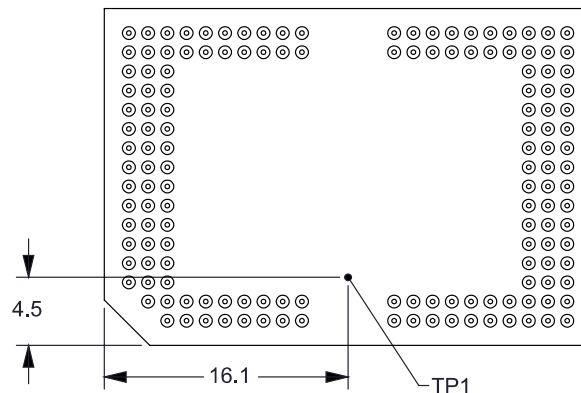

Figure 19. DMD Thermal Test Points
Relationship between array temperature and the reference ceramic temperature (thermocouple location TP1 in Figure 19) is provided by the following equations:
- T_{CERAMIC} = measured ceramic temperature, TP1 location in Figure 19 (°C)
- Q_{ARRAY} = total power, electrical plus absorbed, on the DMD array (W)
- $Q_{\text{ELECTRICAL}}$ = nominal electrical power dissipation by the DMD (W)
- Q_{INCIDENT} = incident optical power to DMD (W)